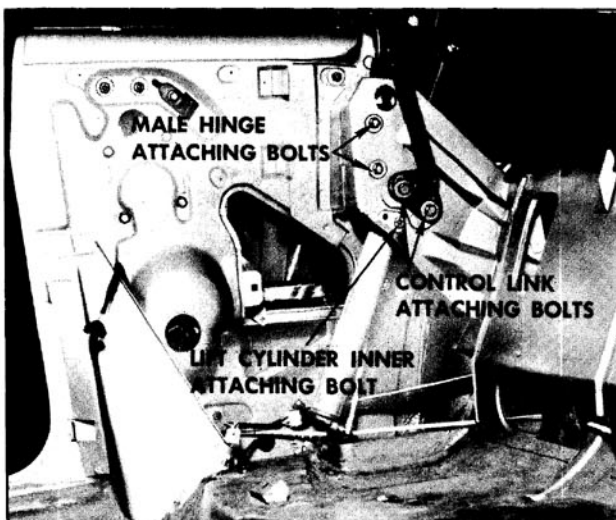

Fig. 16-427 Lift Cylinder Attachment
6. Remove inner and outer bolt securing cylinder to male hinge. (Fig. 16-427)
- c. Loosen two bolts securing control link adjusting plate sufficiently to permit adjustment of plate. (Fig. 16-427)
- b. Loosen male hinge assembly and control link attaching bolts. (Fig. 16-427)